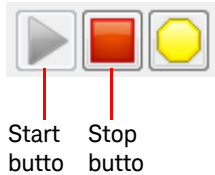

Figure 2-23 Start and stop buttons on the graphical interface
- 1 Select the start or stop button on the bottom left of the graphical interface to start or stop a continuous data acquisition of the waveform respectively as shown in Figure 2-23.